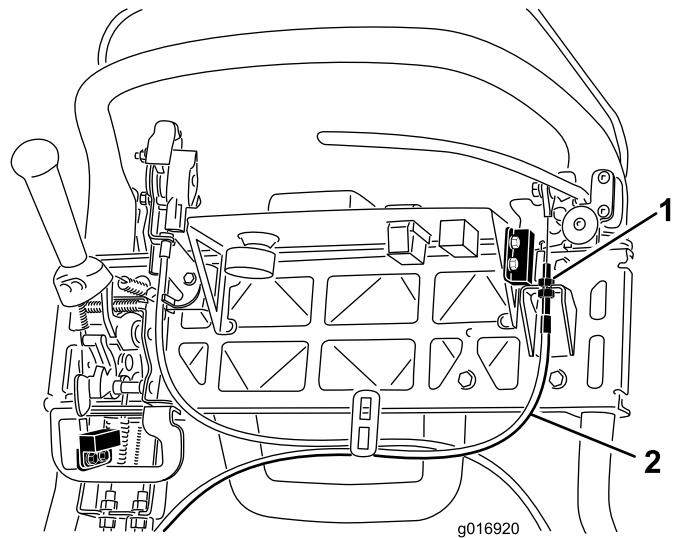

Figure 40
3. To increase the cable tension, loosen the upper cable jam nut and tighten the lower cable jam nut (Figure 40) until a force of 156 N (35 lb.) applied to the brake lever handle, is required to release the parking brake latch.